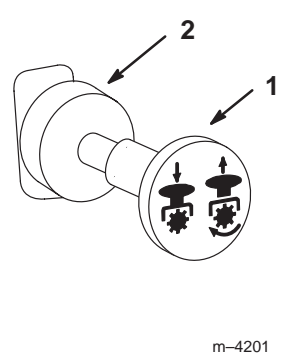

Figure 14
3. Move the PTO (power take off) to Off (Fig. 14).